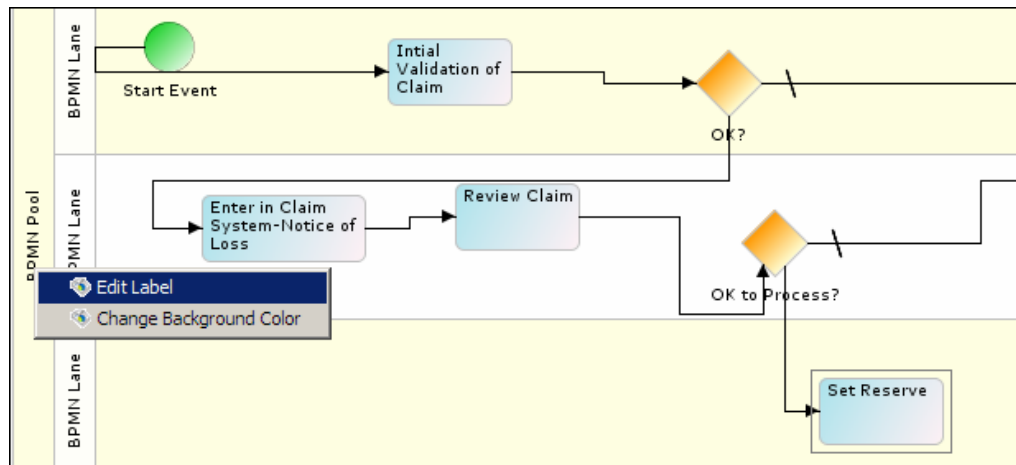

Figure 7.23: Selecting Edit Label Option for Pool
1. Right-click the Pool and select **Edit Label** option (see Figure 7.23).